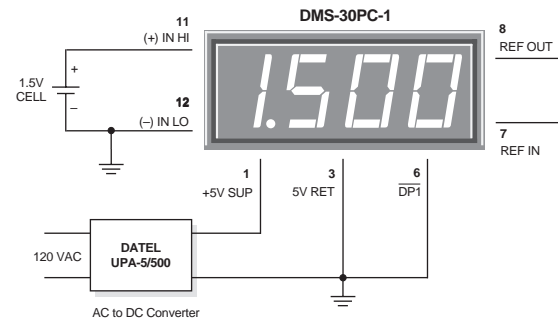

Figure 5. Floating Input Measurements
**4. Floating Signal Source Measurements:** Floating signals can be measured using the circuits shown in Figures 5 and 6.